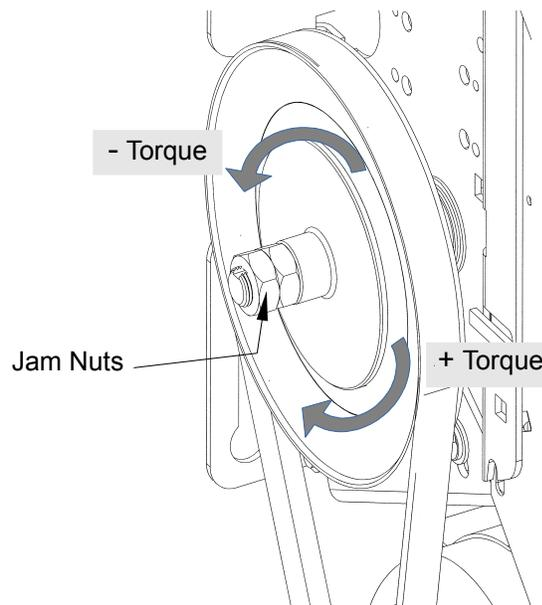

Figure 43 - Clutch Adjustment
1. Unlock the jam nuts with two (2) 15/16" keys, refer to Figure 43.